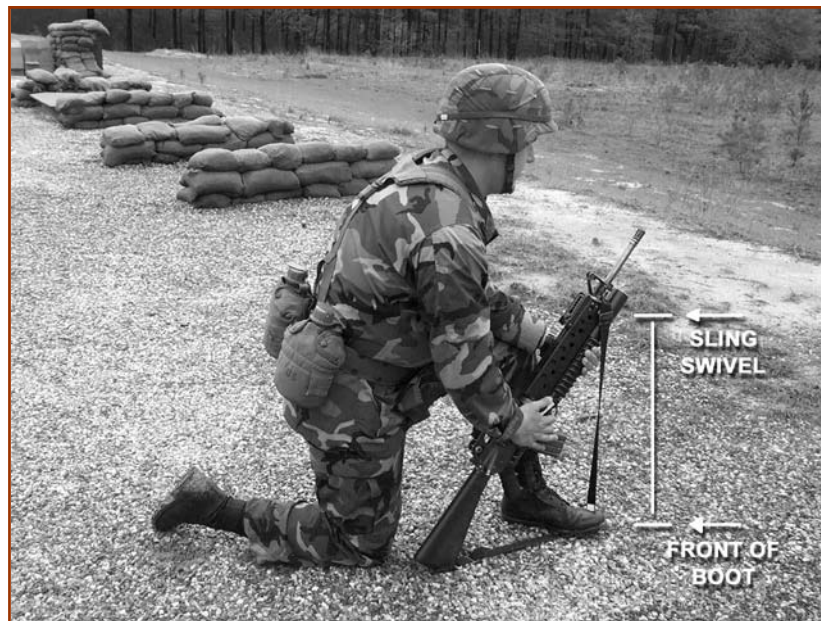

Figure 5-19. Front-sling swivel and front of boot.
(6) Ensure the sling is taut and vertical between the front sling swivel and the boot (Figure 5-19). If not, the rounds will impact at a greater range than desired.